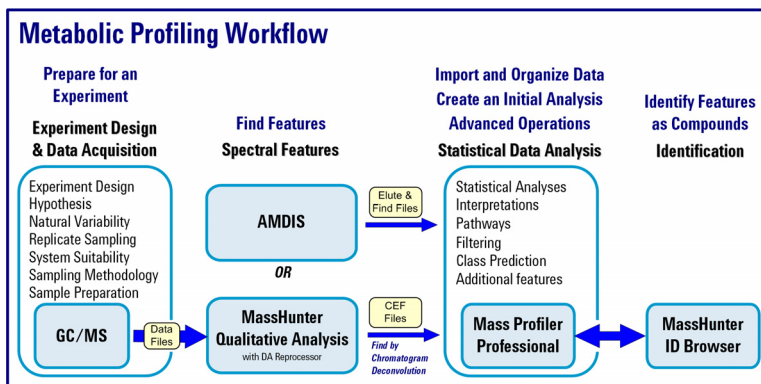

Figure 19 The steps involved in a metabolic profiling experiment using Mass Profiler Professional
MPP is used to import, organize, and analyze the data you acquired. A metabolic profiling experiment may include the following steps: (1) prepare for your experiment, (2) acquire your data, (3) find the spectral features, (4) import and organize your data, (5) create your initial analysis, (6) identify the features, (7) save your project, and (8) perform advanced analysis operations. Figure 19 on page 76 shows the Agilent tools used in metabolic profiling. MPP is used for steps 4 through 8.